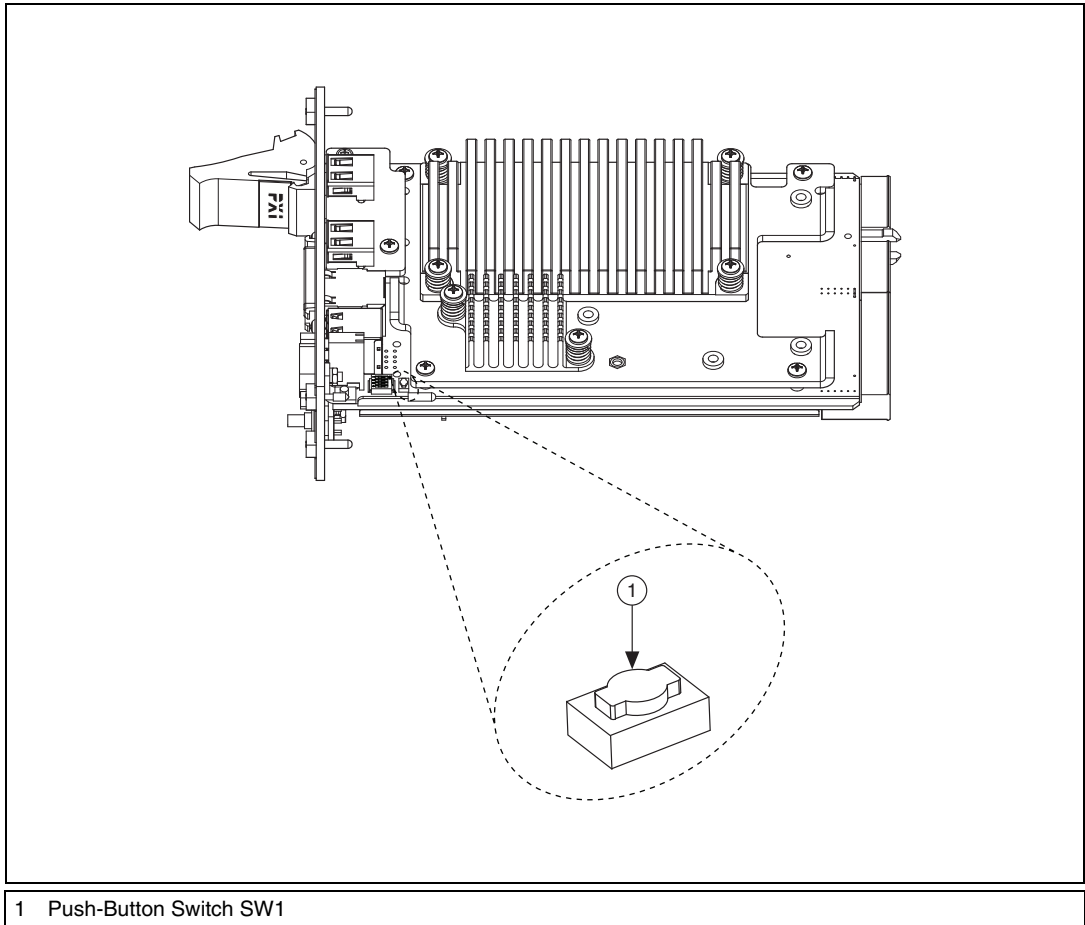

Figure 2-3. Clearing the CMOS Contents
3. Press and hold down the pushbutton switch SW1 for 2 to 3 seconds. The SW1 switch location is shown in Figure 2-3.